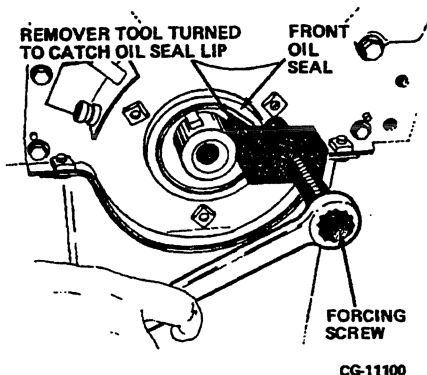

Figure 6.12. Removing Front Oil Seal Using Locally Made Tool
2. Use crankshaft front oil seal remover, Figure 6.12 as follows:
- Insert nose of remover tool under front seal by turning the remover tool with a wrench to position the nose under the seal lip. Refer to Figure 6.12.
- Tighten forcing screw (Figure 6.12) against front cover.